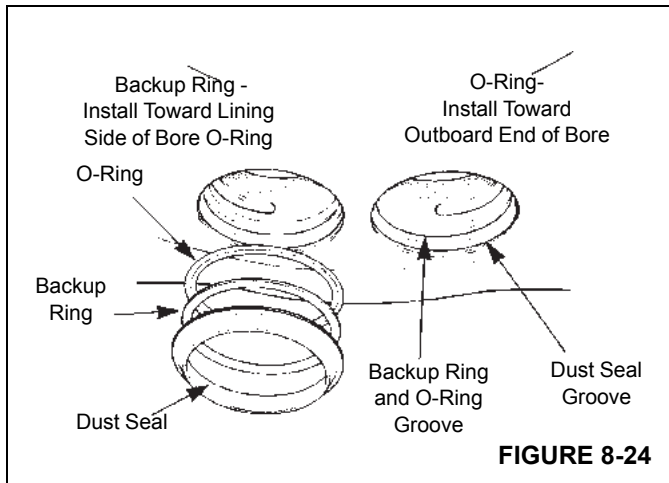

FIGURE 8-24
2. Install new O-ring and a new back-up ring in the groove in the middle of the bore. The O-ring is installed toward the outboard end of the bore. The back-up ring is installed toward the lining side of the bore. Refer to Figure 8-24.
3. Install a new dust seal in the top groove of the bore. Refer to Figure 8-24.